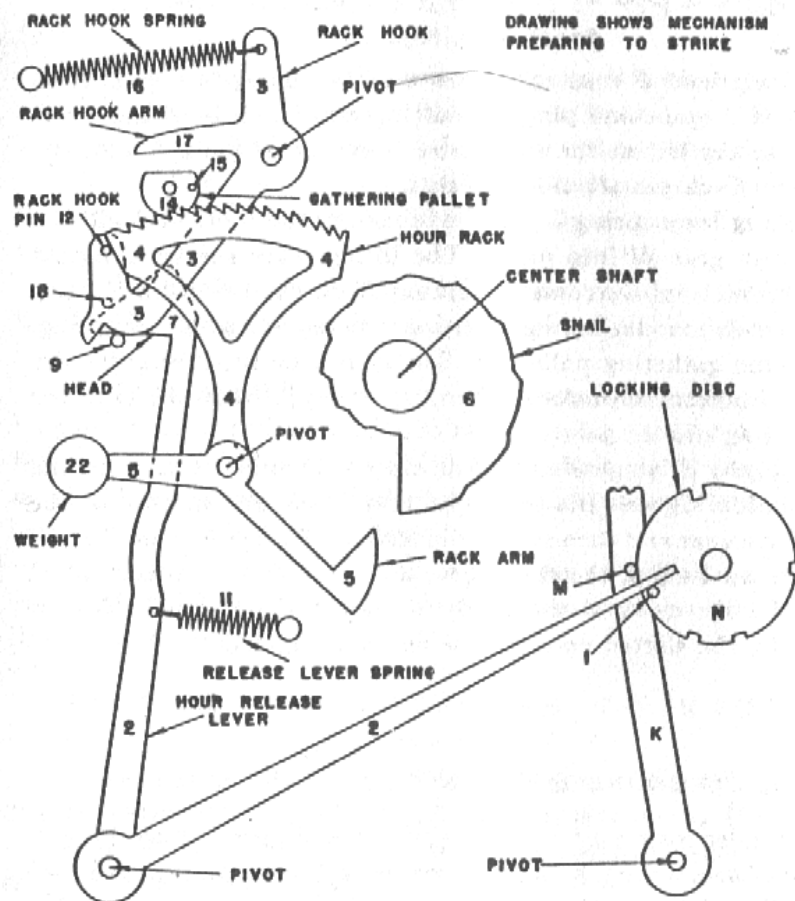

Figure 8
See Figures 8 and 9, Page 17
See Figure 8, Page 17
1. Hour rack 4 may not be set correctly and gathering pallet pin 15 may be hitting on top of the teeth. Reset. See Figure 8, Page 17.